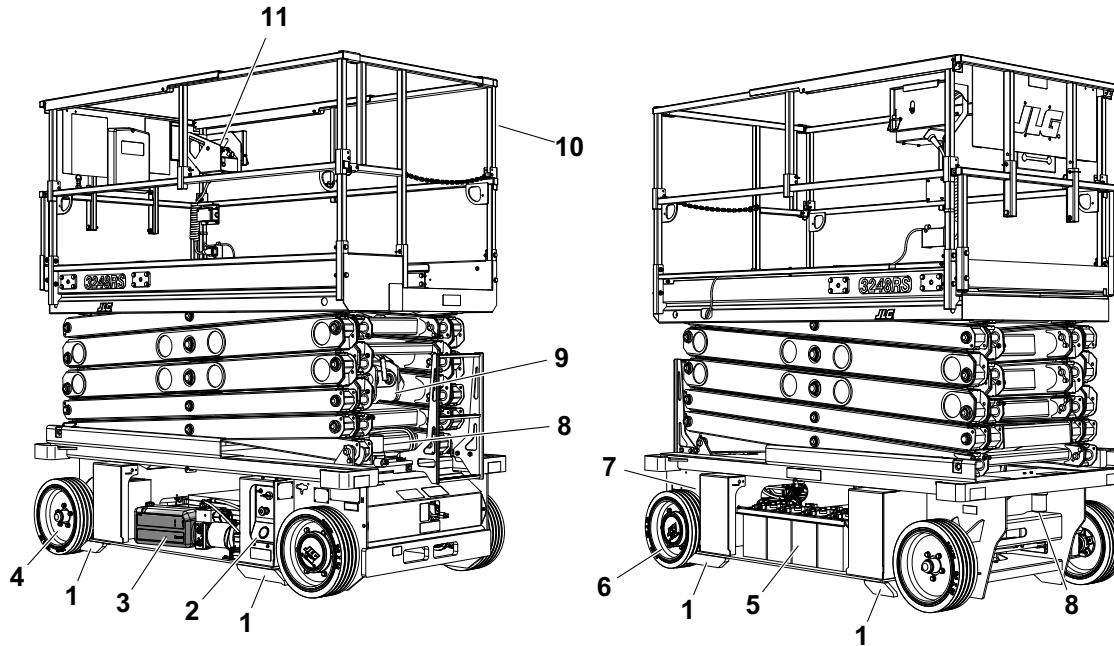

Figure 2-1. Daily Walk-Around Inspection (Side Covers Removed) - All Machines
5. **“Walk-Around” Inspection** – Refer to Figure 2-1. on page 3-7.
Begin the “Walk-Around Inspection” at item 1, see Figure 2-1. on page 3-7. Continue checking each item in sequence for the conditions listed in the following checklist.